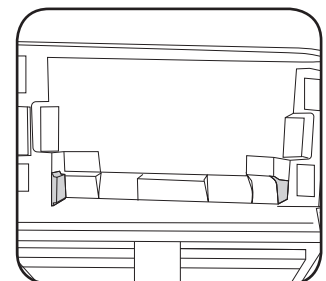

Fig. 1.9
9. To make room for the aftermarket radio, you will need to cut out a small section from the left and right side of the sub dash. (Fig. 1.9)